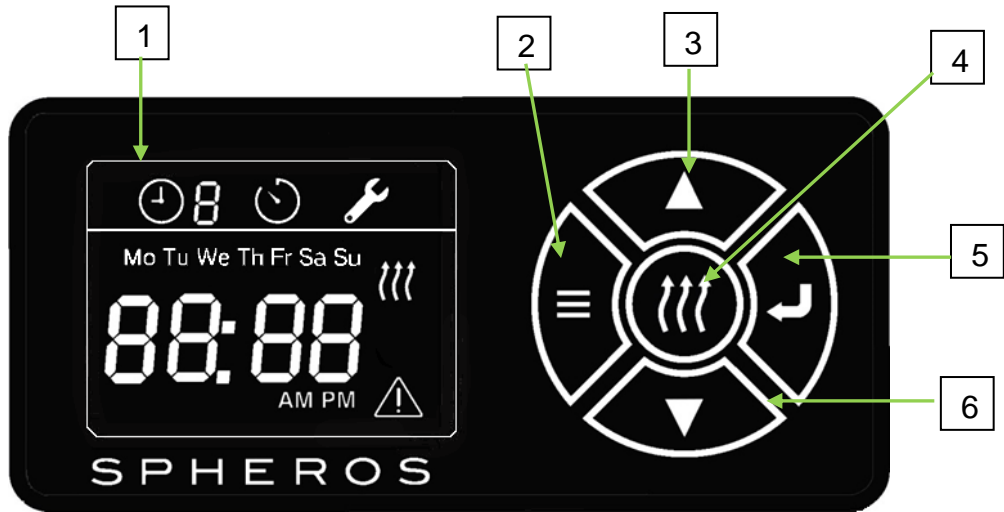

Figure 1 - SC Preheater Control panel
- Fast mode is activated, if selection buttons (Figure 1, 3 & 6) are pushed longer than 0.5 seconds.